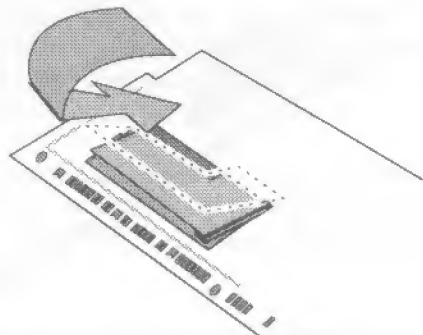

Figure 1.3 — Placement of the A1230
4. Place the A1230 Turbo+ inside the A1200 (see Figure 1.3).